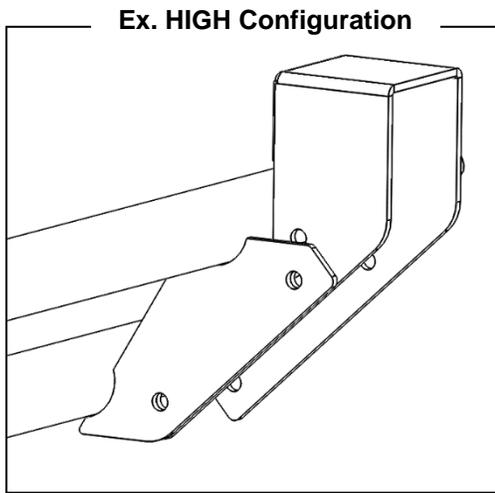
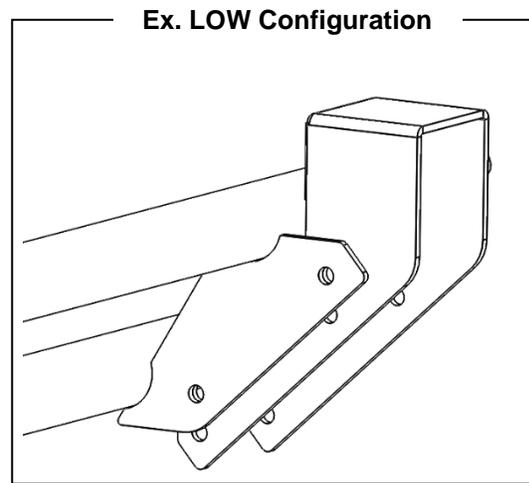

Figure 2
Figure 1
1. Assemble the nerf bar brackets into the correct orientations shown in Figure 3, take note of which brackets are labeled "high" or "low". Please reference Figure 2 for the high configuration, and Figure 1 for the low configuration. The passenger side and driver side nerf bars will assemble differently, be sure to note the differences outlined in Figure 3.